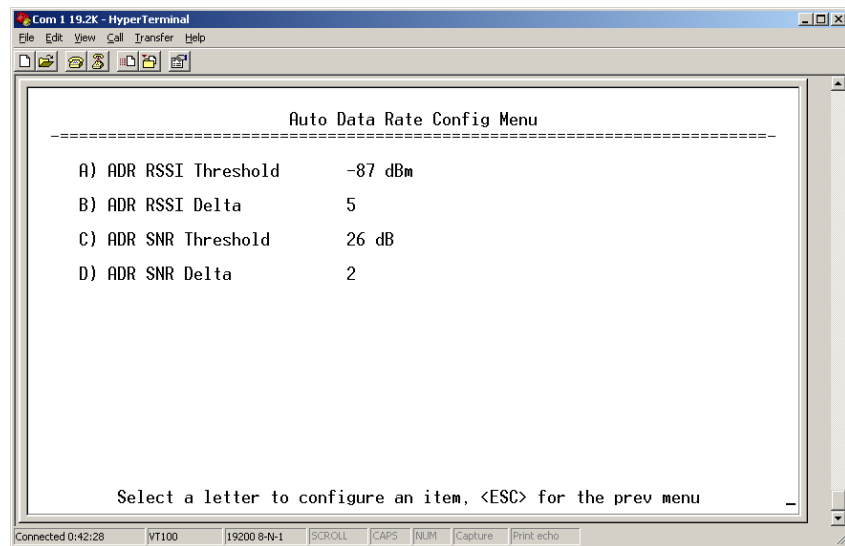

Figure 3-22. Auto Data Rate Menu
- **Auto Data Rate Configuration**—This selection brings up a submenu as shown in Figure 3-22. For the settings in this submenu to have any effect, the Data Rate menu item (Page 49) must be set to **AUTO**.
The Auto Data Rate Configuration submenu consists of two threshold settings, each accompanied by a “delta” (amount of change) setting. Using the example of Figure 3-22, assume the current RSSI is -87 dBm. An RSSI reduction of more than 5 dBm (more negative RSSI number) would cause a data rate change from high speed to standard speed. Once the data speed has changed to standard speed, an RSSI *increase* to the level of -82 dBm would be required for the radio to switch back to high speed. This provides an operational “window” or hysteresis range over which the data speed stays constant despite minor changes in signal strength.
The SNR (signal-to-noise ratio) threshold and delta operate in the same manner described above, with the exception that the units are expressed in relative dB instead of dBm. In the example of Figure 3-22, a drop of 2 dB from a level of 26 dB would result in a data rate change from high speed to standard speed. For the radio to return to high speed, the SNR would need to increase to 28 dB. (*See Glossary for definition of SNR.*)
Figure 3-22 shows the default values for RSSI and SNR parameters but these may be changed to optimize performance in your environment. In properly designed systems, experience has shown that RSSI levels between -50 dBm and -90 dBm provide reliable operation, provided the signal-to-noise ratio is 17 dB or above. Tailoring the thresholds with these baseline values in mind, can provide improved performance in your system.